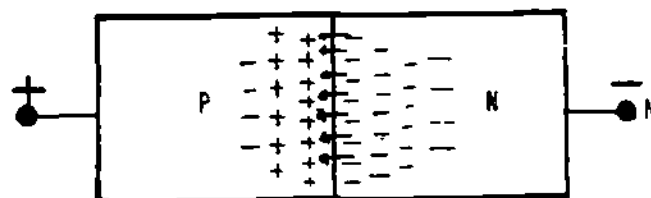

Figure 18
(20) The size of the depletion region in a PN junction is related to the bias and strength of an applied voltage. Recall the rule "like charges repel, unlike charges attract". Therefore, a positive voltage applied to the P-type material will repel the positive particles in the material toward the PN junction. In a similar manner, a negative voltage applied to the N-type material will repel the negative particles in the material toward the PN junction. This forward bias voltage makes the depletion region smaller in size. If the applied voltage is large enough (about .5 volts for silicon material), the negative particles will cross the PN junction and join with the positive particles. Figure 18 shows this condition.